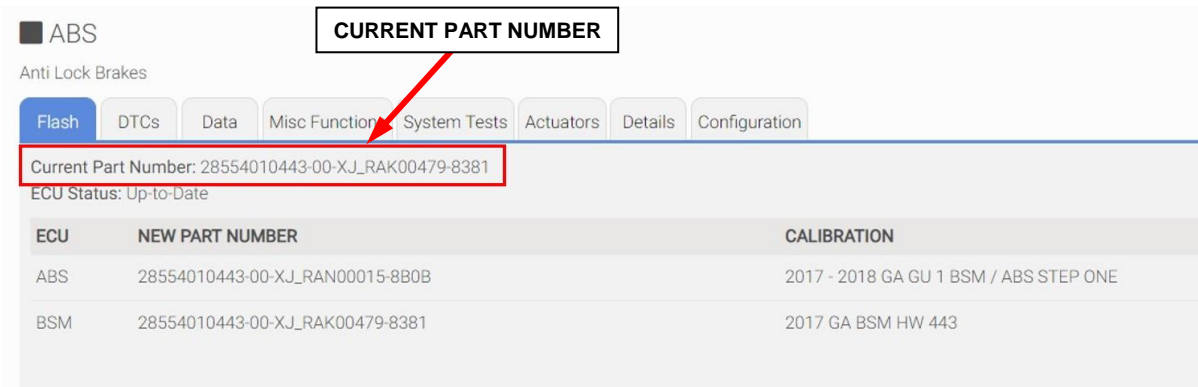

Figure 1 – Example of ECU “Current Part Number”
10. From the ABS “**Flash**” tab, record the “**Current Part Number**” (Figure 1) for the software currently installed in the Electronic Control Unit (ECU), then proceed to the table in (Figure 2) to determine which flash **Procedure A, B, C, D, E** is the appropriate starting point for the specific hardware and software combination currently installed in the vehicle.